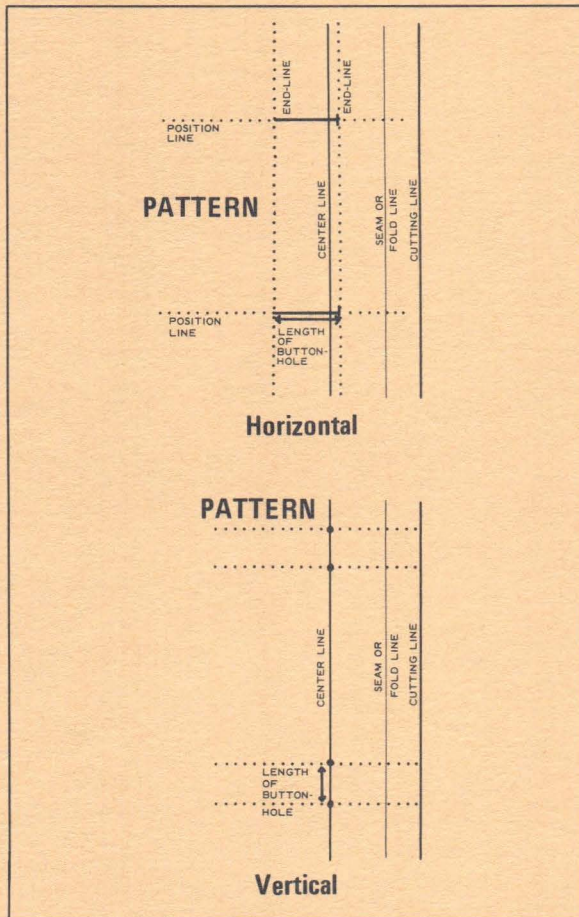

Figure 1
Begin by marking buttonhole on wrong side of garment with tracing carbon and wheel (Fig. 1). When fabric resists tracing carbon or when using interfacing, mark horizontal and
- Mark buttonhole lines as described for strip method (Fig. 1).